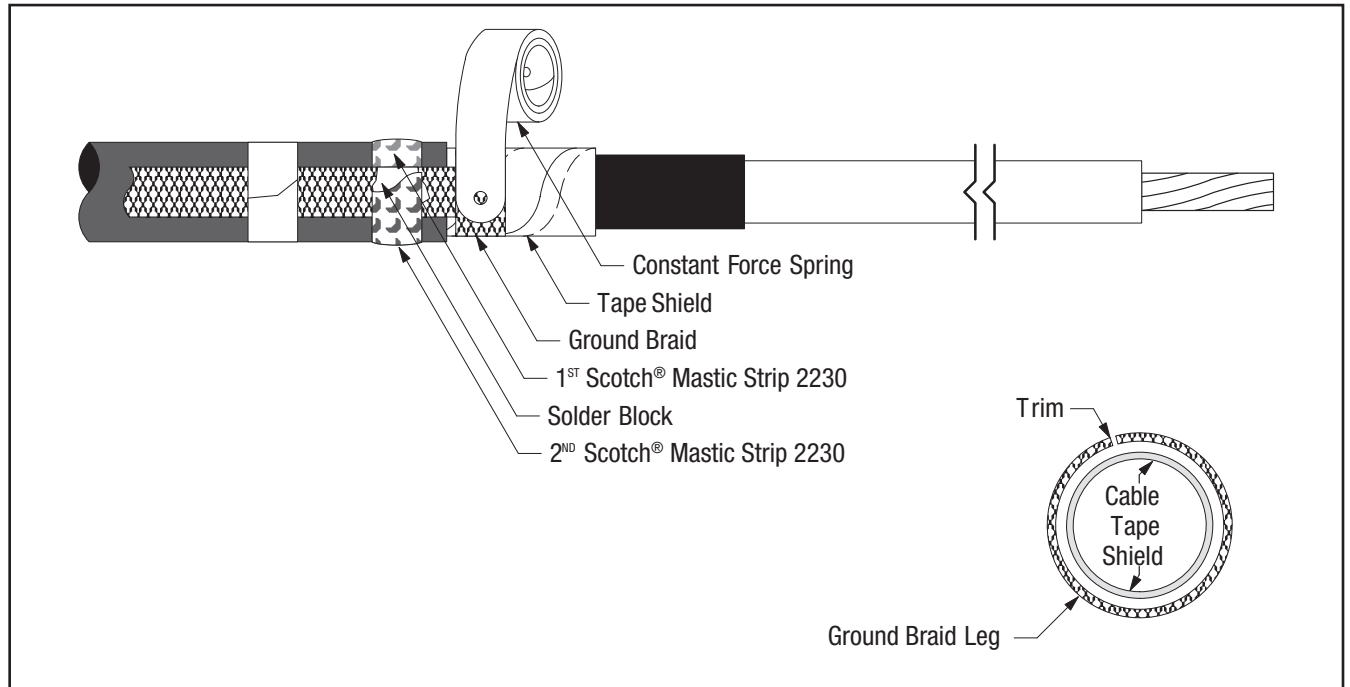

Figure 4
- 3.3 Wrap ground braid around cable tape shield one complete wrap, trim excess to prevent overlap and secure in place with constant force spring. Wrap spring in same direction as ground braid (Figure 4). Cinch (tighten) the spring after wrapping the final winding.
- 3.4 Select second Scotch® Mastic Strip 2230 from kit and remove white release liners. Apply a second SINGLE WRAP of mastic over solder block on ground braid and previously applied mastic (Figure 4). Cut off excess.